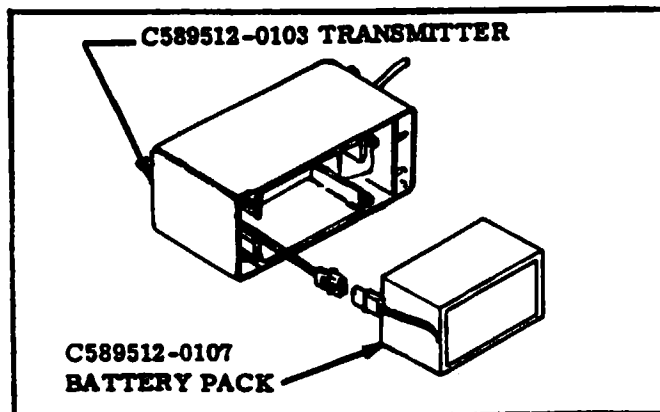

Figure 17-20. Battery Pack Installation
## 17-132. REMOVAL AND INSTALLATION OF BATTERY PACK. (Refer to figure 17-20.)
- d. Place new battery pack in the transmitter with four batteries as shown in the case in figure 17-20.
- e. Connect the electrical connector as shown in figure 17-20.